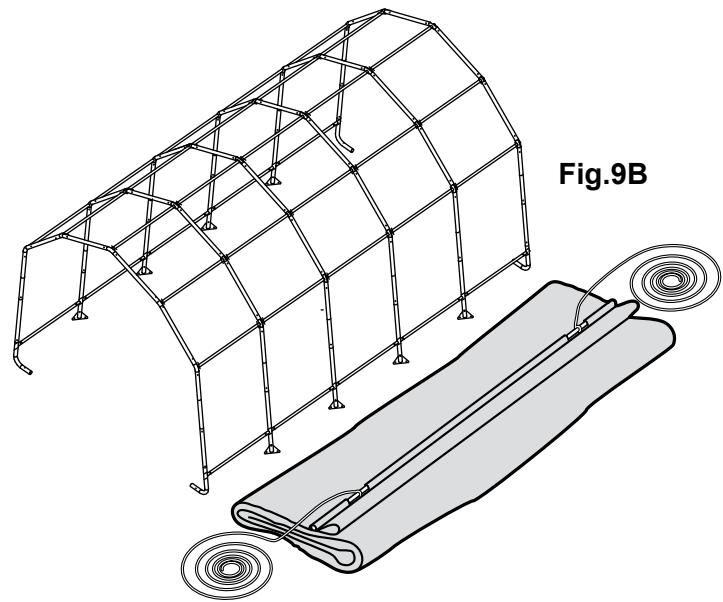

Fig.9B
B. Fold over the side closest to the frame so the pipe pocket is now accessible. Insert a cover pipe at the first middle rib from the front and the first middle rib from the rear so that it is inserted in the pipe pocket on both ends of the pipe but the center of the pipe is exposed. For long buildings it may be necessary to use additional pipes in the middle. Fig. 9B.